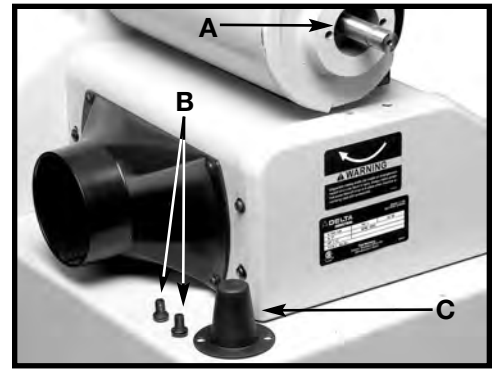

Fig. 37
- A power take-off shaft (A) Fig. 37 is provided on the lower end of the sanding belt arm to accommodate accessories.
- For access to the power take-off shaft, remove the two screws (B) Fig. 37, and cover (C).
⚠ WARNING Unguarded rotating shafts (A) Fig 37 can create an entanglement hazard. **ALWAYS COVER THE POWER TAKE-OFF SHAFT** when not using accessories.